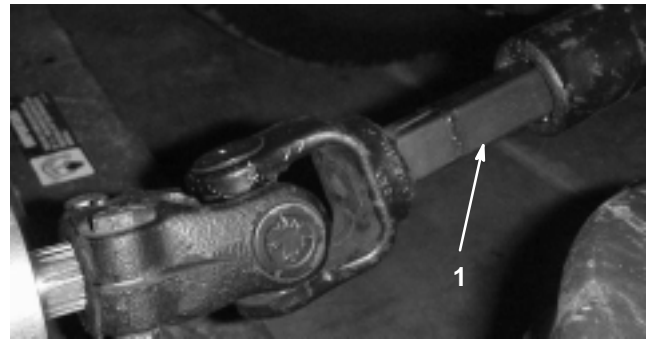

Figure 26
5. Roll the cutting unit away from the traction unit, separating the male and female sections of the PTO shaft (Fig. 26).
3. Slide the male PTO shaft into the female PTO shaft. (Fig. 26)